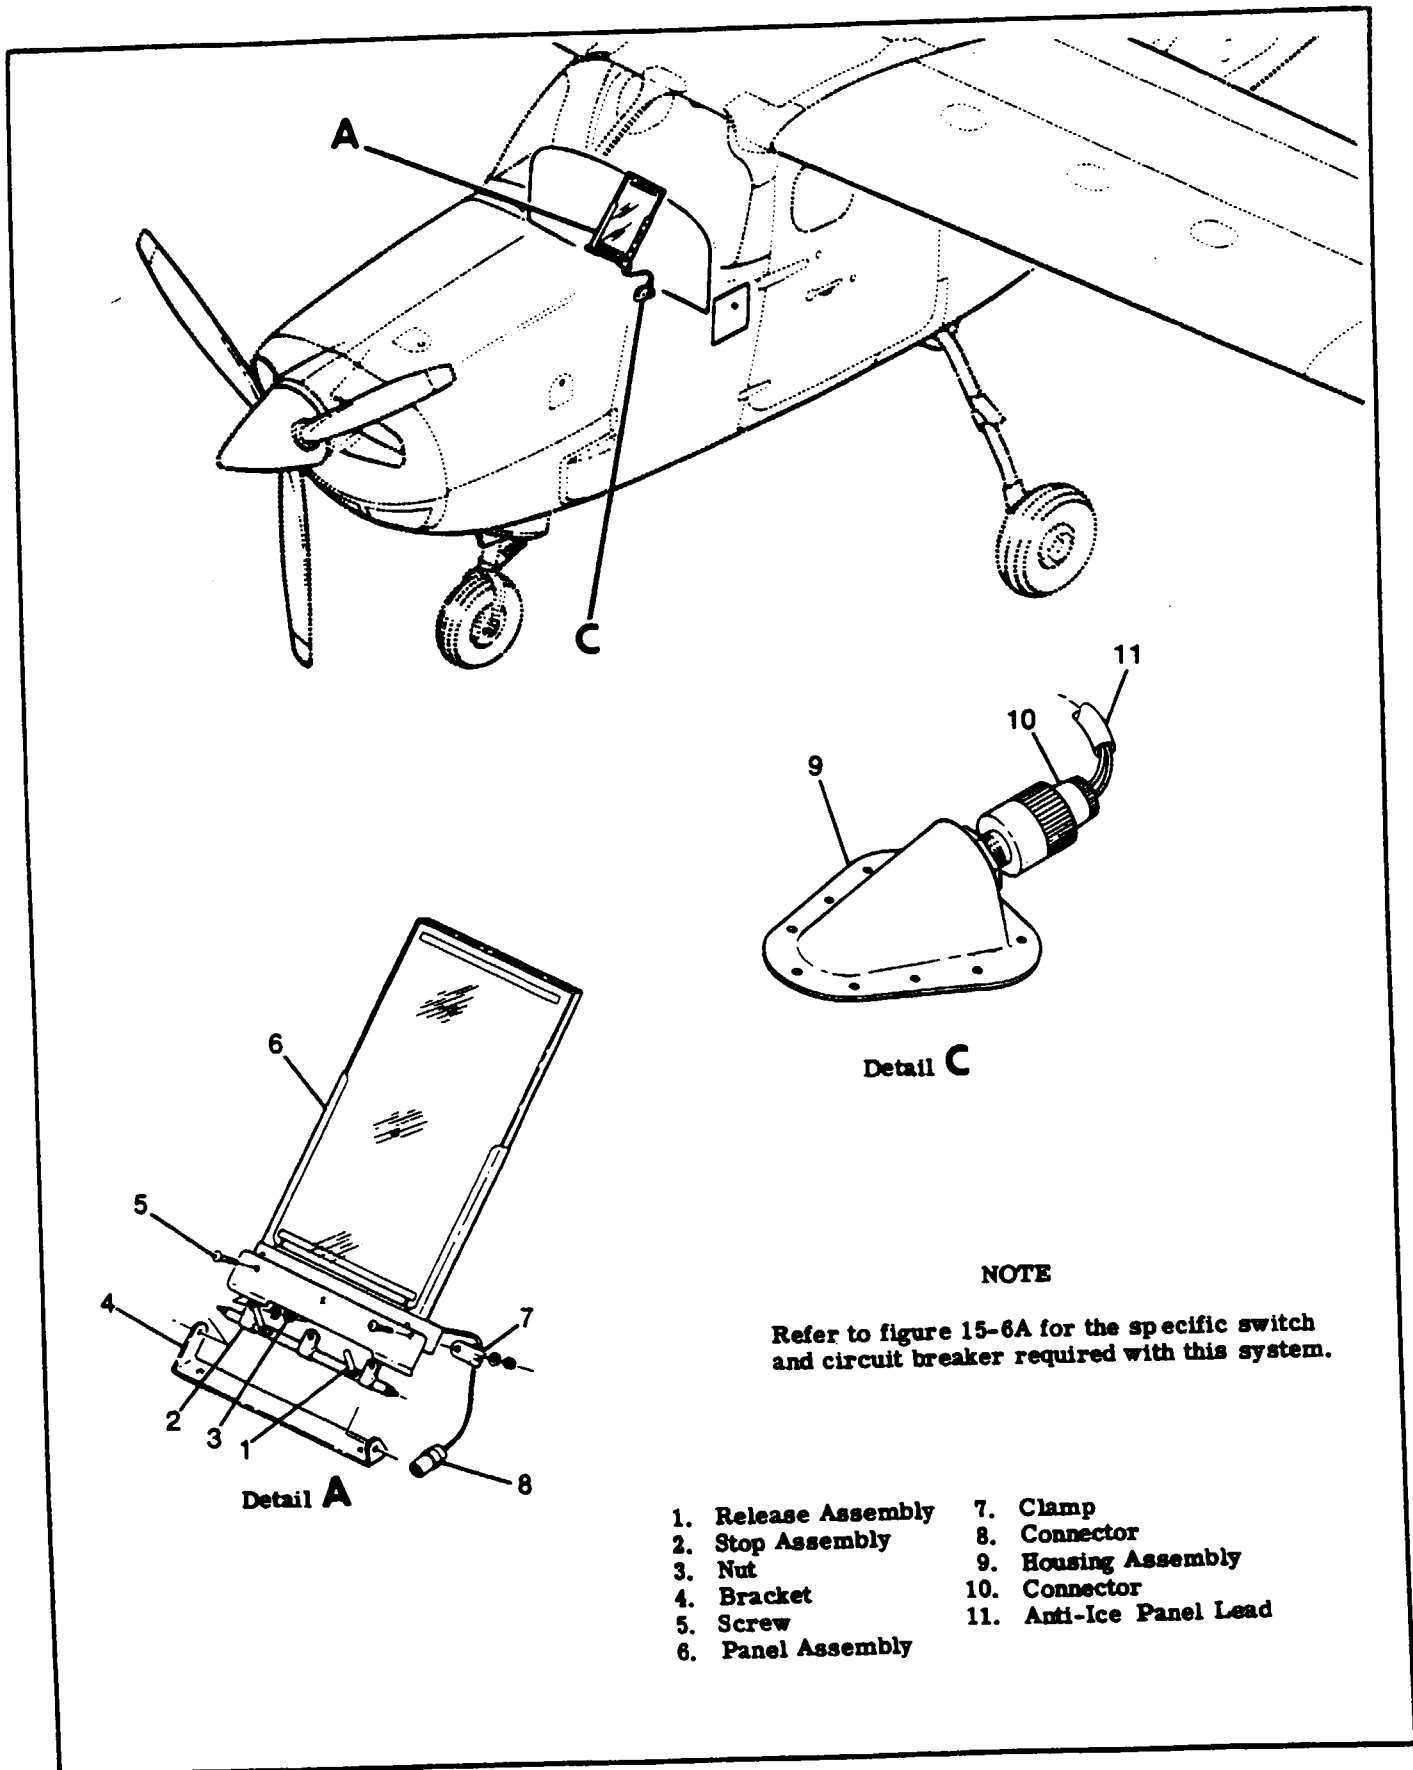

Figure 15-13. Windshield Anti-Ice Panel Installation (Removable)
**15-84. HEATED WINDSHIELD PANEL (REMOVABLE.)** (See figure 15-13.)
**15-86. REMOVAL AND INSTALLATION.** (See figure 15-13.) Use the figure as a guide for removal and installation of components.